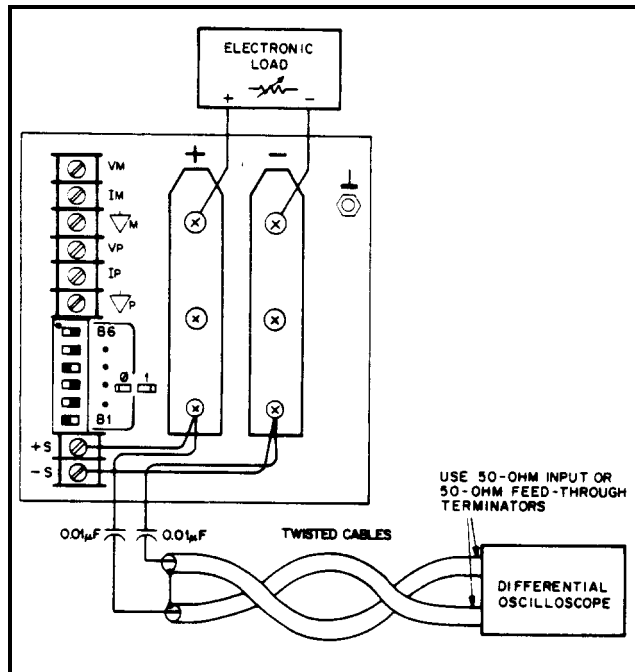

Figure 2-7. Peak-To-Peak Measurement Test Setup, CV PARD Test
Peak Measurement Procedure. Figure 2-7 shows the interconnections of equipment to measure PARD in Vpp. The equipment grounding and power connection instructions of Paragraph 2-36 apply to this setup also. Connect the oscilloscope to the + S and - S terminals through 0.01 μ F blocking capacitors to protect the oscilloscope's input from the unit's output voltage. To reduce common-mode noise pickup, set up the oscilloscope for a differential, two-channel voltage measurement. To reduce normal-mode noise pickup, use matched-length, 1 meter or shorter, 50 Ω coaxial cables with shields connected to the oscilloscope case and to each other at the other ends. Proceed as follows:
- Connect the test equipment as shown in Figure 2-7. Operate the load in constant resistance mode (Amps/Volt) and set resistance to maximum.